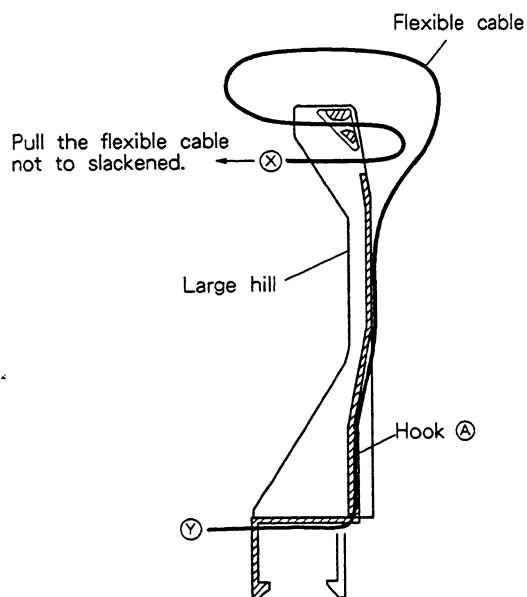

Fig. 17 Sectional plan
① Bend the flexible cable as shown below.
② Put the bended portion to hook (A) of the large hill.
③ Bend the flexible cable along the wall of large hill.
④ Pull the flexible cable not to slackened after passing the (X) edge side of flexible cable through the large hill as shown in Fig. 17.